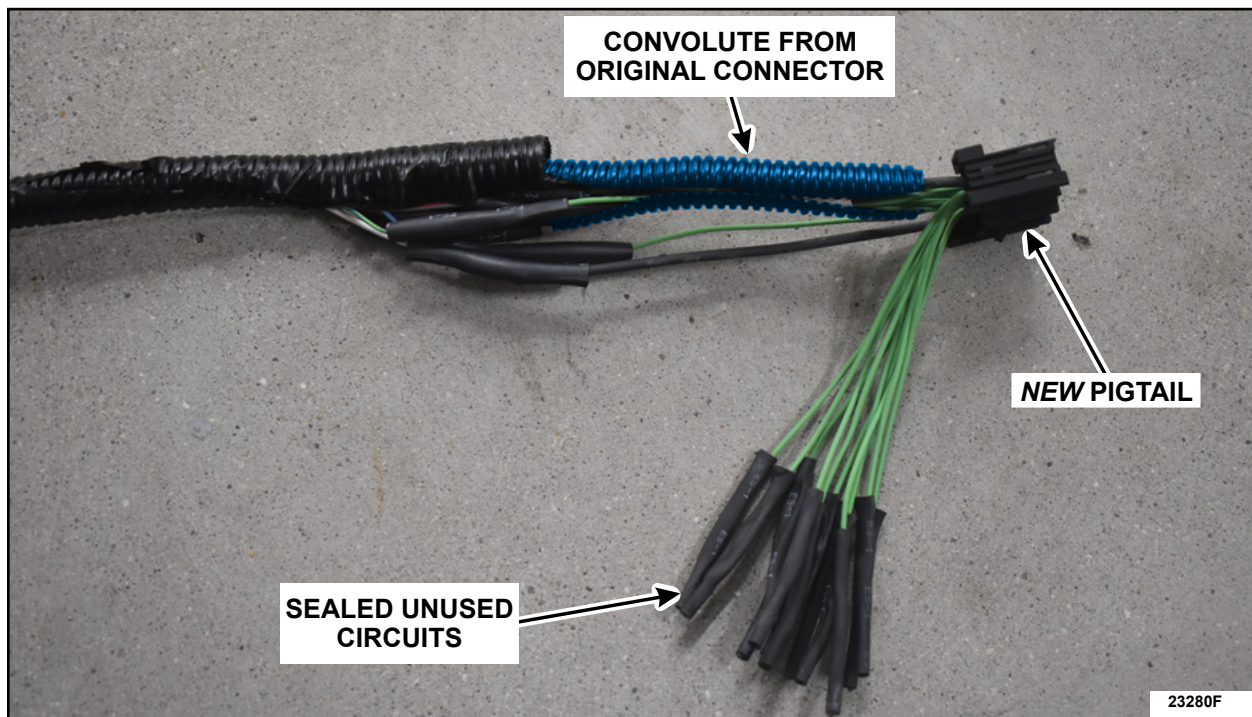

FIGURE 9
16. Install the convolute from the original connector to the pigtail wiring the and wrap using Coroplast® 837 abrasion tape or equivalent. See Figure 9.